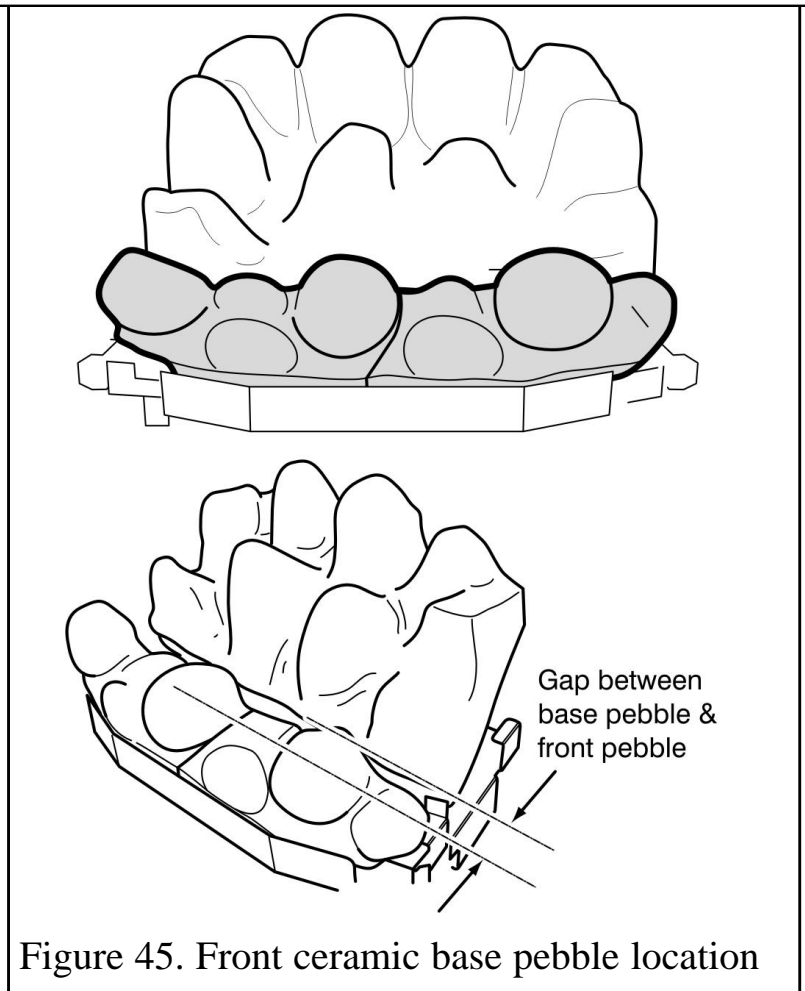

Figure 45. Front ceramic base pebble location
2. Place the right-hand ceramic front pebbles in position in front of the base pebble. The front of the ceramic pebbles should touch the front of the burner module (See figure 45).
should touch the front of the burner module (See figure 45).
4. There will be a gap between the rear of the front pebbles and the front of the base pebbles (See figure 45).